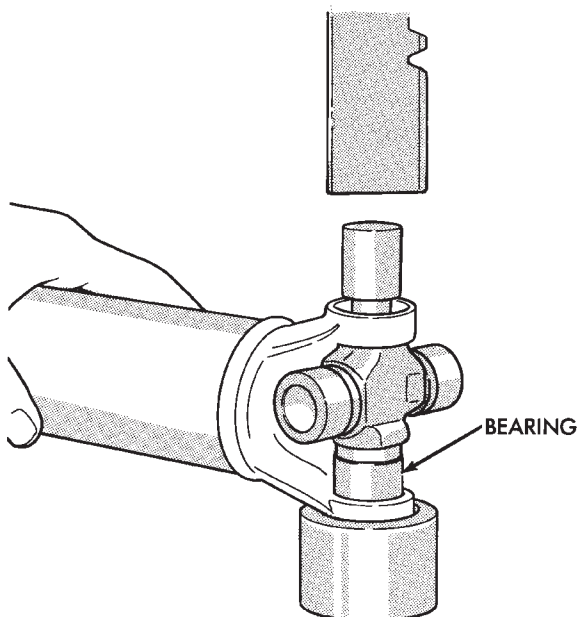

Fig. 20 Press Out Remaining Bearing
(6) If the bearing assembly will not pull out by hand after pressing, tap the base of the lug near it to dislodge.
(7) To remove the opposite bearing, turn the yoke over and straighten the cross in the open hole. Then carefully press the end of the cross until the remaining bearing can be removed (Fig. 20).